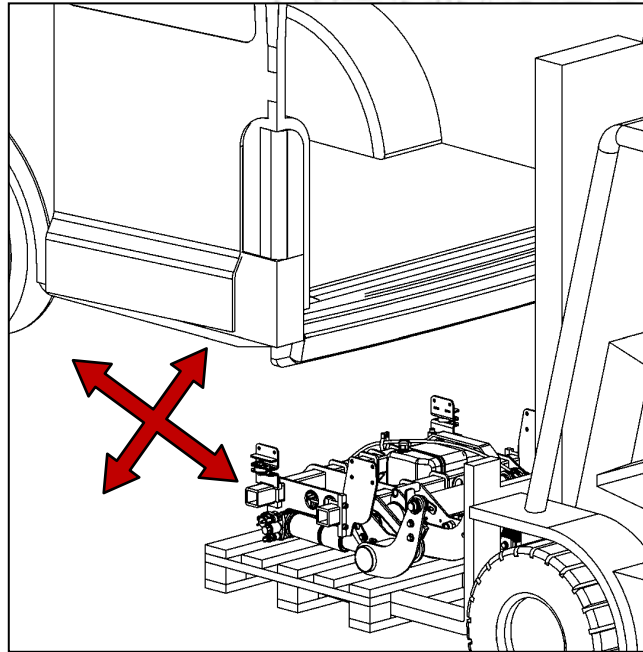

Figure 27
- Align the lifting gear under the vehicle on a mounting tool or pallet (see Fig. 27).